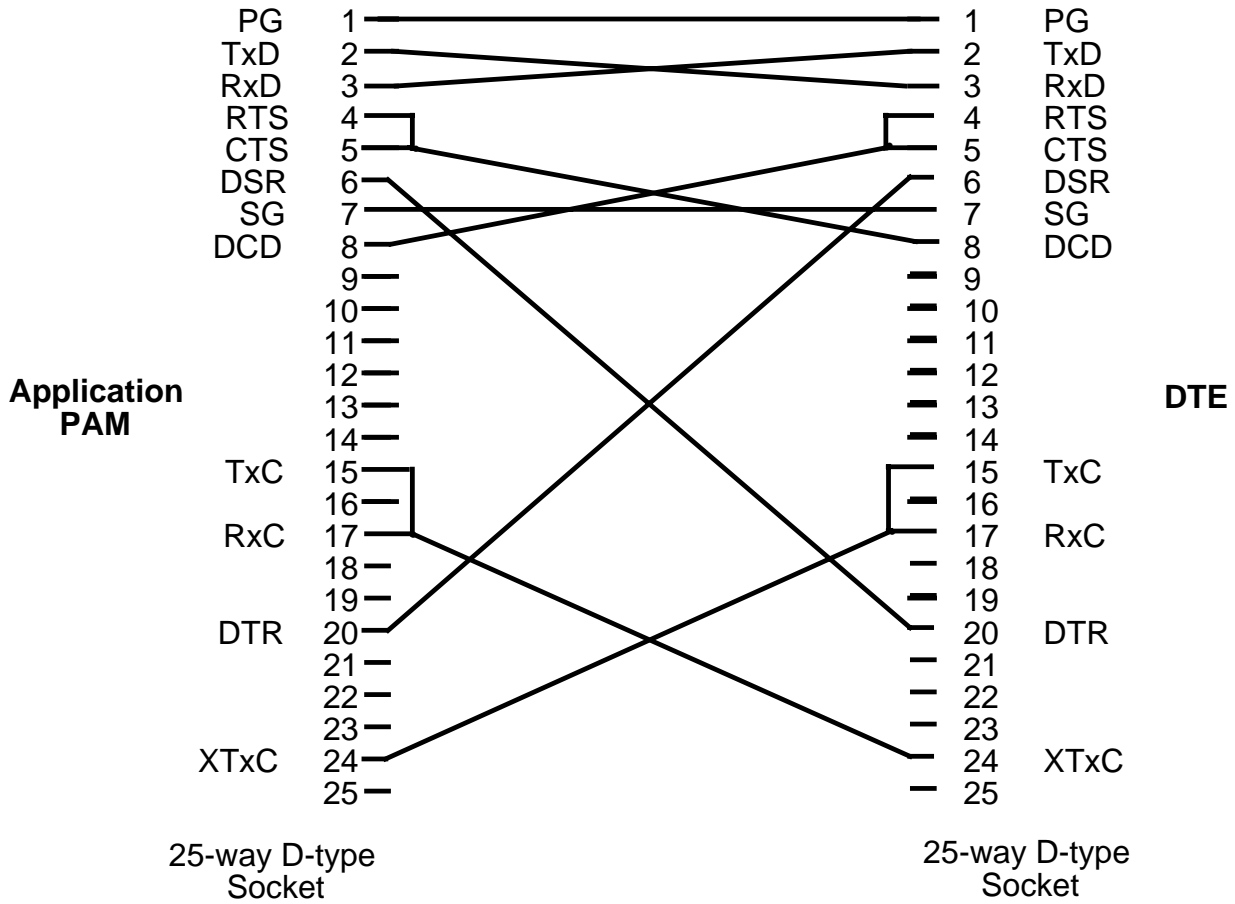

Figure B-4 Composite to V.24 DTE Cable
- (3) Application Module to V.24 DTE. Use cable X890-410711, Figure B-4.